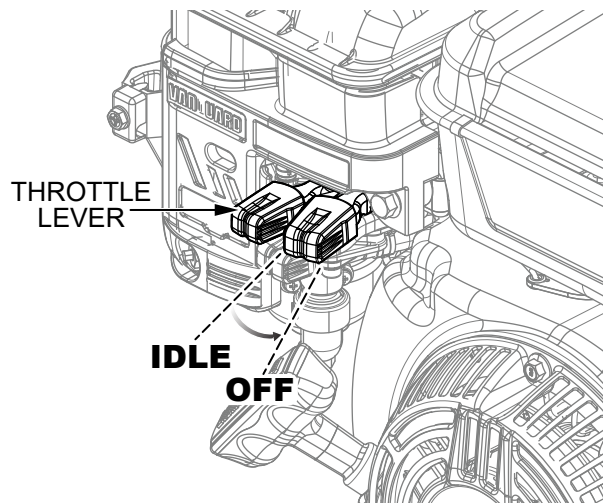

Figure 14. Engine Throttle Lever (OFF)
- After the engine has cooled, place the **engine throttle lever** in the **OFF** position (Figure 14). This action will also turn off the engine fuel valve.